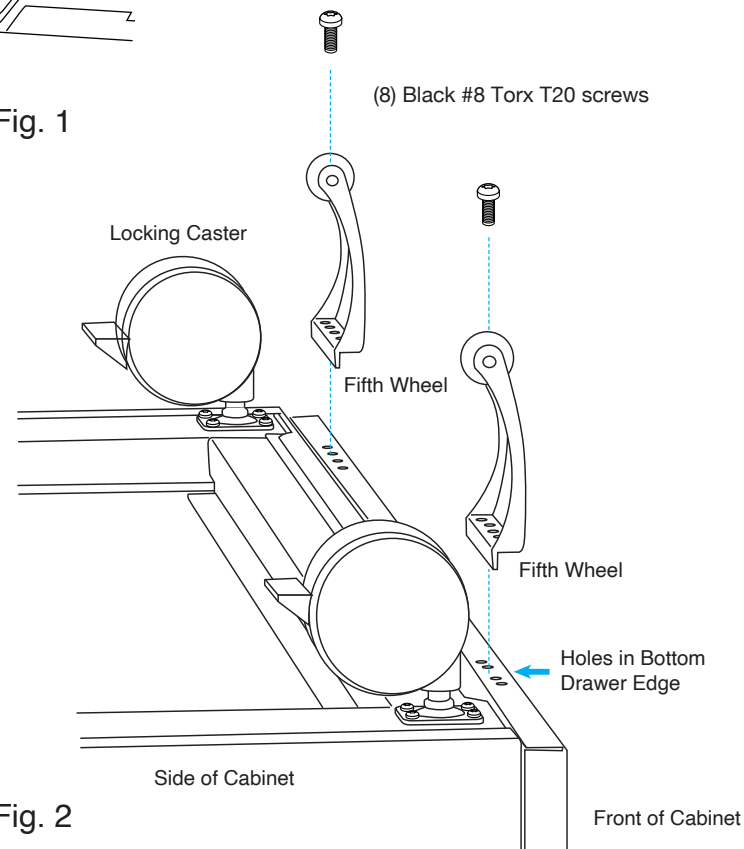

Fig. 2
6. If included in kit, position fifth wheel to holes on bottom edge of lower drawer with lip facing in. Fasten using (4) Black #8 Torx T20 screws. Repeat for remaining fifth wheel. Fig. 2